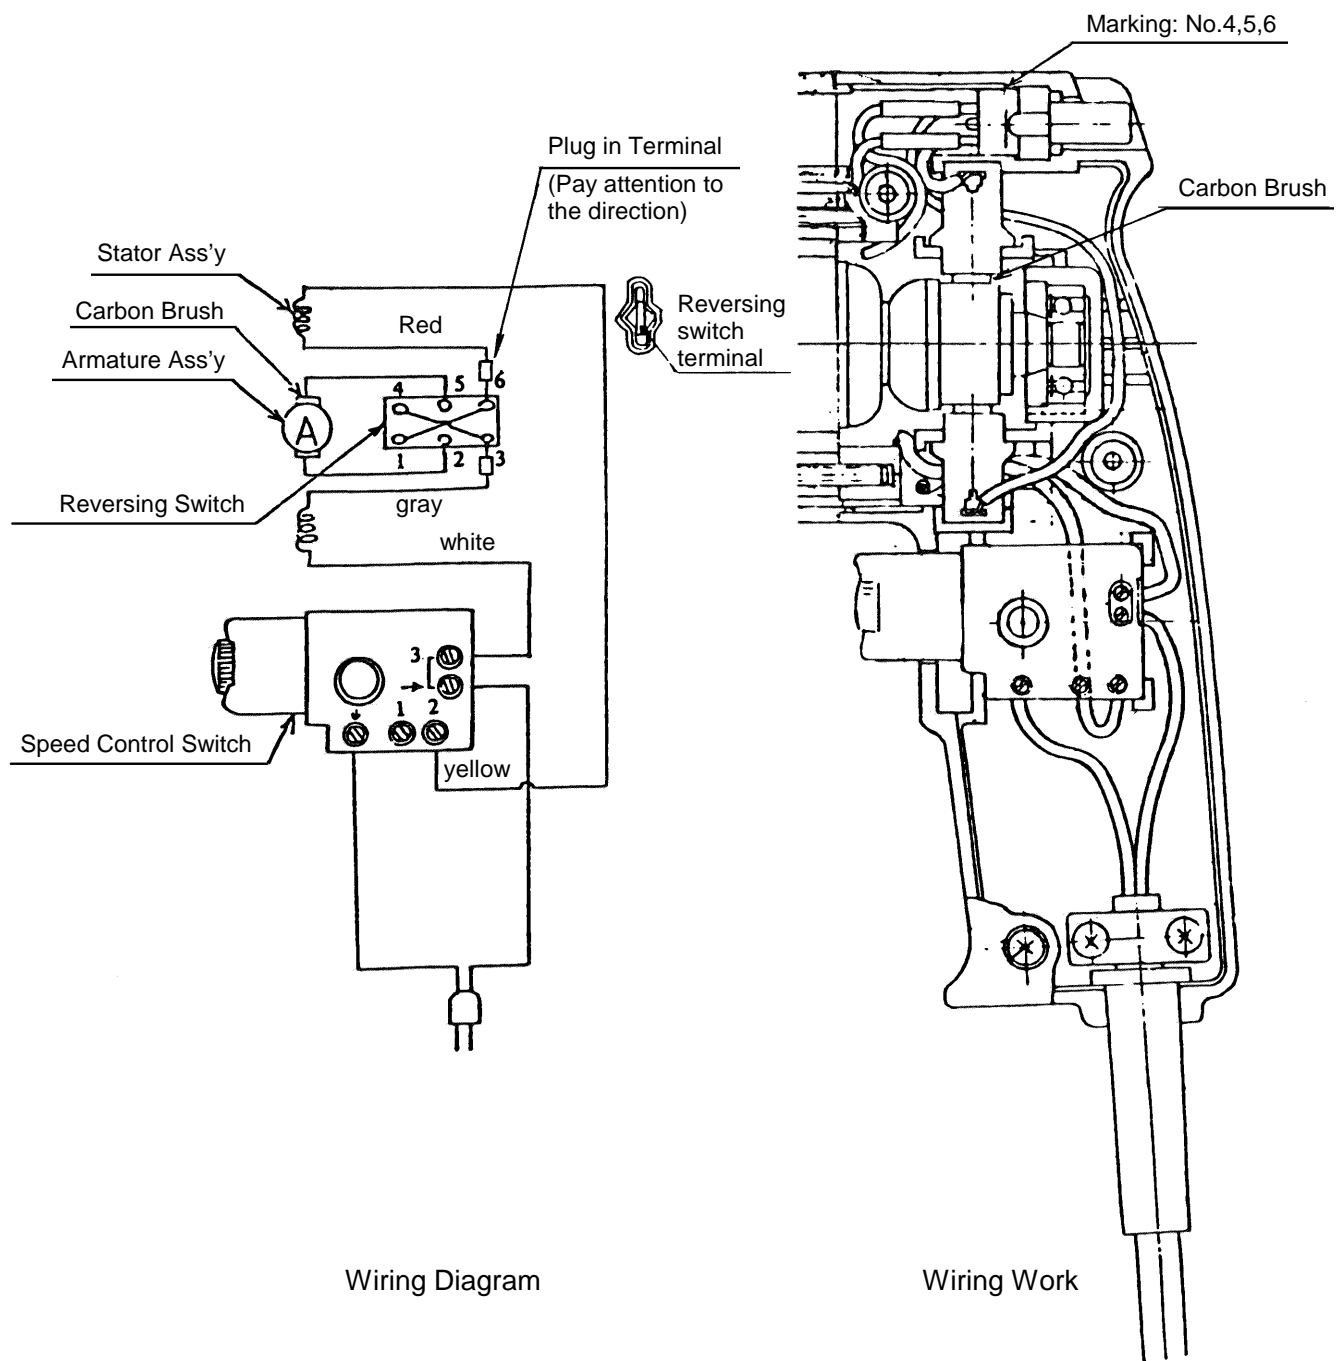

Fig. 6
- (2) Ensure that internal wiring is accomplished in accordance with the illustrations in Fig. 6. When reassembling the Handle Cover, be very careful not to pinch or damage the wires inside.